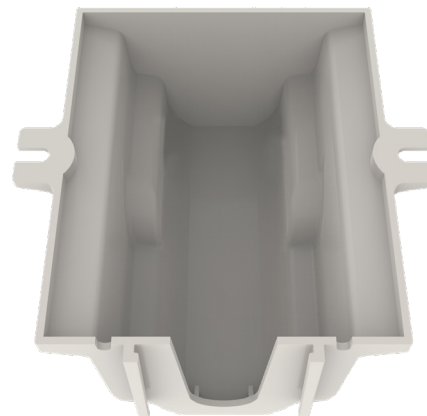

Figure 6: Interior 64394-032
2. Verify the proper orientation. The bottom of the Wall Cover has IR programming bracket holder rails and an opening for IR programming (Figure 6).